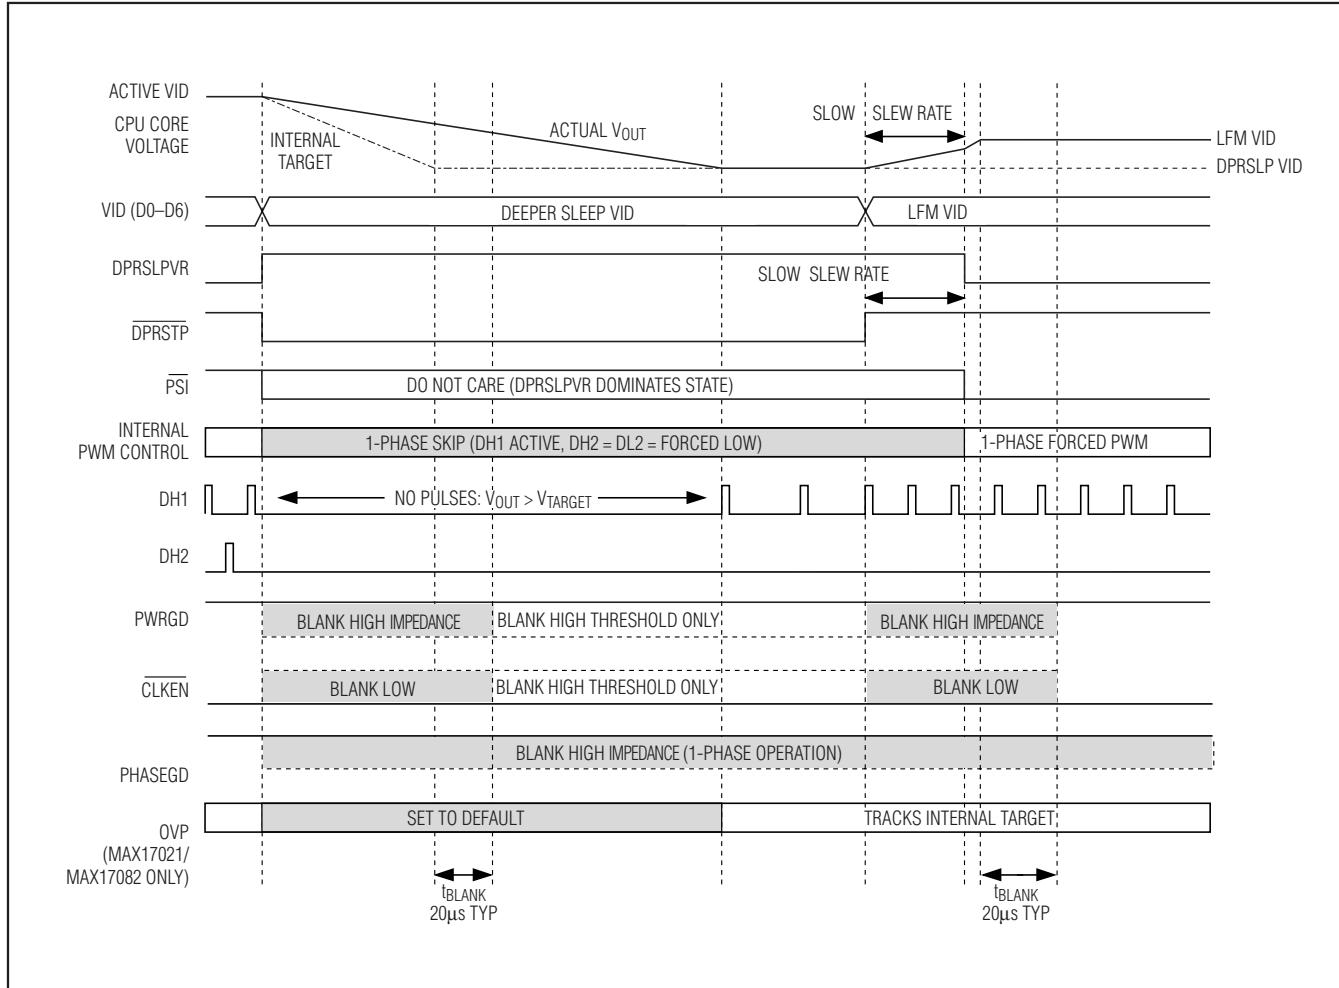

Figure 7. Slow C4 Transition
• **IMVP-6+ Slow C4 Deeper Sleep Exit:** When exiting deeper sleep (DPRSLPVR high, DPRSTP pulled high) while the output voltage is regulating to the deeper sleep voltage, the MAX17021 remains in 1-phase skip mode and ramps the output voltage to the LFM DAC code provided by the processor at 1/4 the slew rate set by RTIME. The controller blanks PWRGD, PHASEGD, and CLKEN until 20 μ s after the transition is completed. See Figure 7.